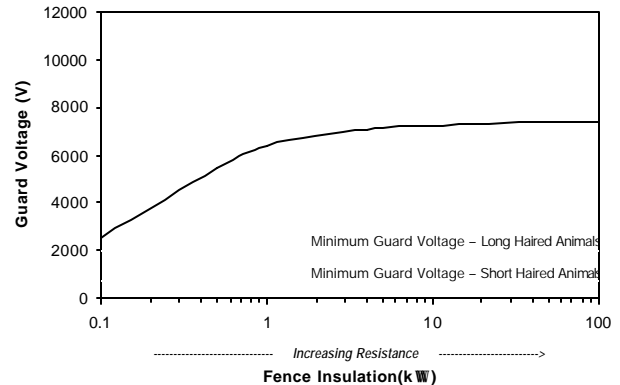

Figure 12. Guard Voltage for 3.3 mile (5.4 km) Fence.
**Shock Delivery:** Figures 12 and 13 show guard voltage outputs of the BULLDOZER Model C402 for 3.3 and 10 mile (5.4 and 16 km) lengths of single wire fence over a range of resistances. Table 8 provides the guard voltages at the "weeded" and "clean" fence conditions. Guard voltage values for other fence conditions are given in Appendix II. The higher the guard voltage the higher the shock delivered to the animal.
As can be seen from **Figures 12 and 13**, low resistance did not appreciably affect shock delivery, since the voltage output was above 2,000 V for all fence conditions. The BULLDOZER Model C402 can be expected to deliver shock over a wide range of fence conditions.